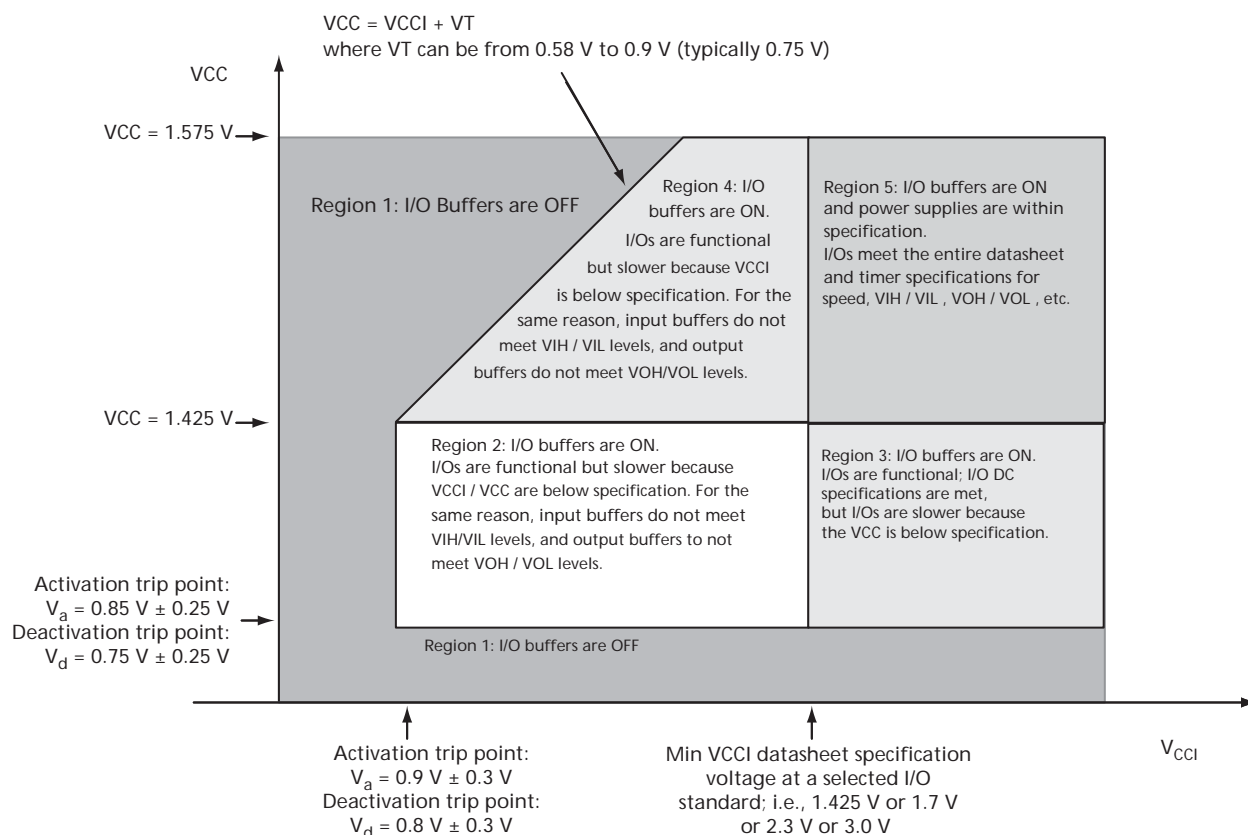
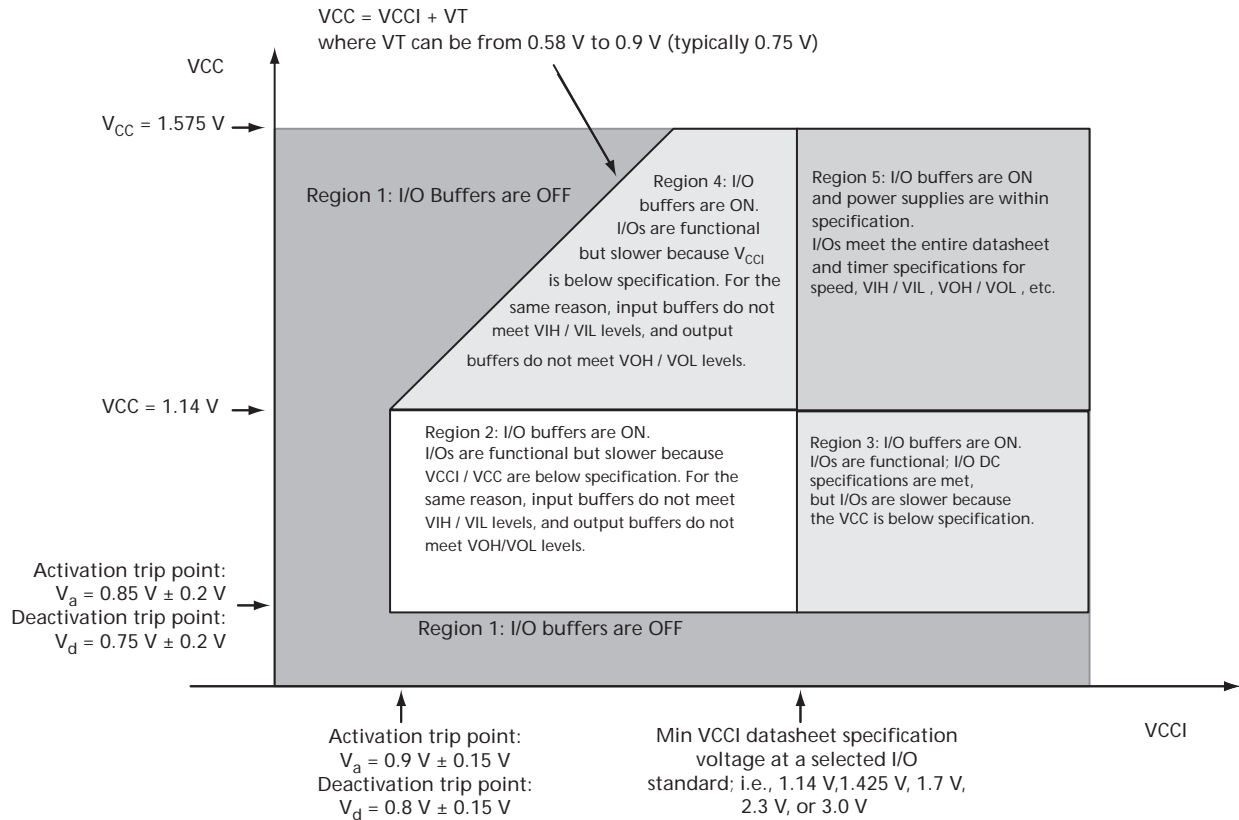

Figure 2-1 • V5 Devices – I/O State as a Function of VCCI and VCC Voltage Levels
Figure 2-2 • V2 Devices – I/O State as a Function of V_{CCI} and V_{CC} Voltage Levels
Sophisticated power-up management circuitry is designed into every IGLOO nano device. These circuits ensure easy transition from the powered-off state to the powered-up state of the device. The many different supplies can power up in any sequence with minimized current spikes or surges. In addition, the I/O will be in a known state through the power-up sequence. The basic principle is shown in Figure 2-1 on page 2-4.
1. VCC and VCCI are above the minimum specified trip points (Figure 2-1 and Figure 2-2 on page 2-5).
Microsemi recommends using monotonic power supplies or voltage regulators to ensure proper power-up behavior. Power ramp-up should be monotonic at least until VCC and VCCPLX exceed brownout activation levels (see Figure 2-1 and Figure 2-2 on page 2-5 for more details).